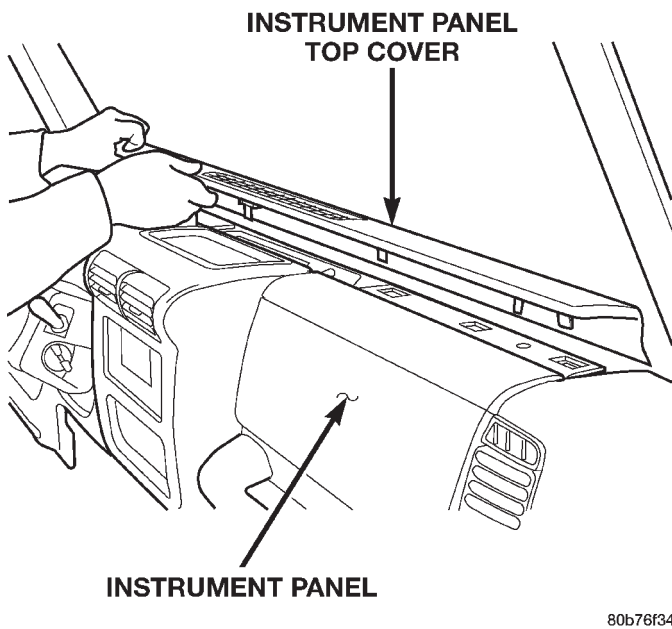

Fig. 3 Instrument Panel Top Cover
(1) Using a flat blade screwdriver or similar flat-bladed tool, gently pry the instrument panel top cover up and away from the instrument panel to release the snap clip retainers (Fig. 3).